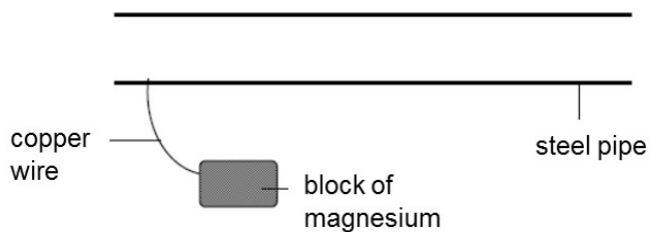

Fig. 11.2
- B11 (c)** A method of preventing rusting of underground steel pipes is sacrificial protection. A block of magnesium is connected by a piece of copper wire to a steel pipe as shown in Fig. 11.2.